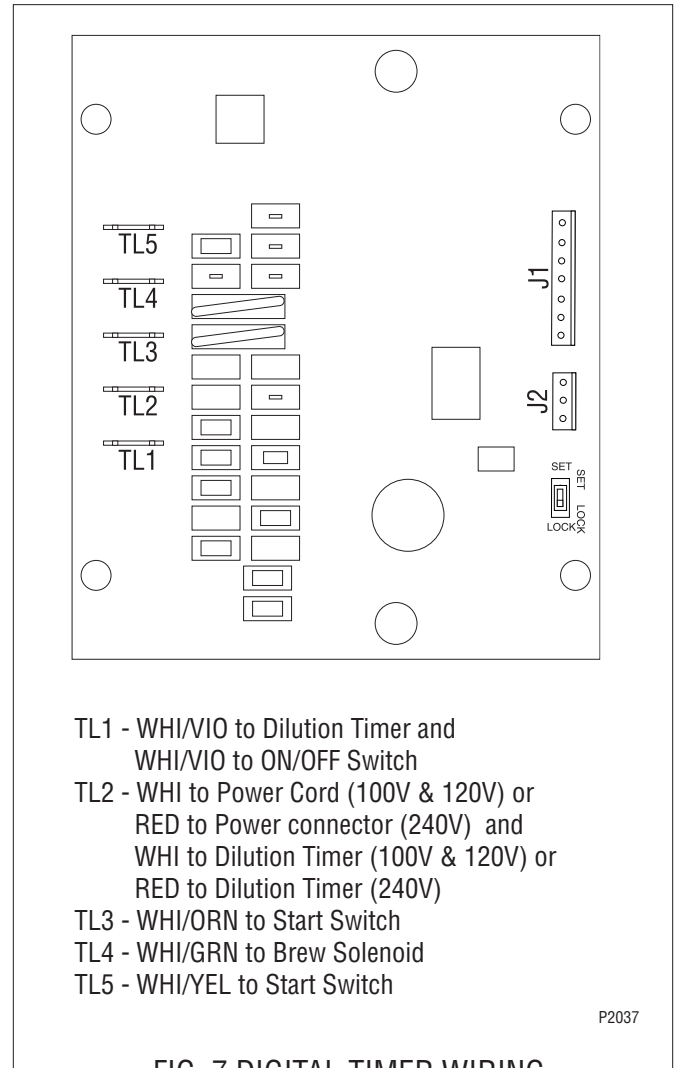

FIG. 7 DIGITAL TIMER WIRING
4. Refer to Fig. 7 when reconnecting the wires.
4. Attach all wires to the replacement timer board prior to installation to the component mounting bracket. Refer to FIG. 7 when reconnecting the wires.